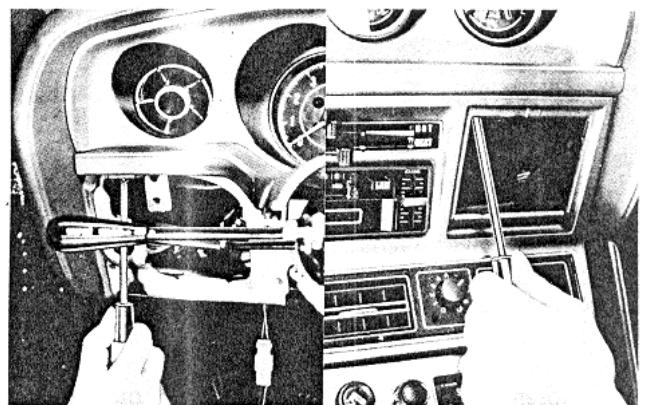

Fig. 15-16 Loosening screws
8. Loosen but do not remove the two screws shown in the Fig. 15-16 and pull the column cover out from the instrument panel.